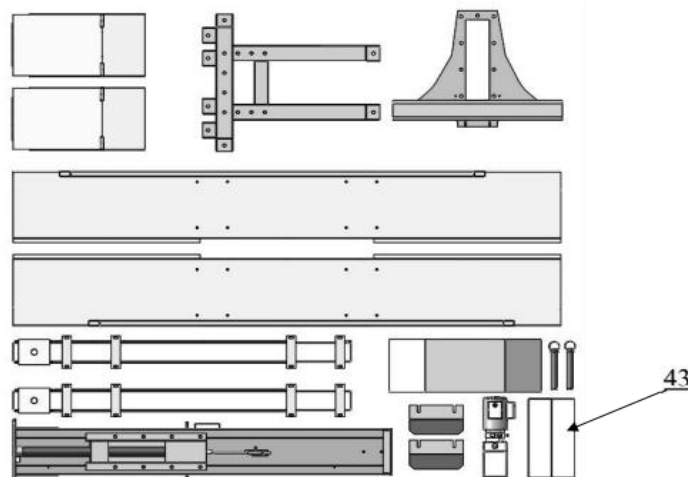

Fig.10
4. Move aside all parts to installation site and check the parts according to the shipment parts list. (See Fig.10)